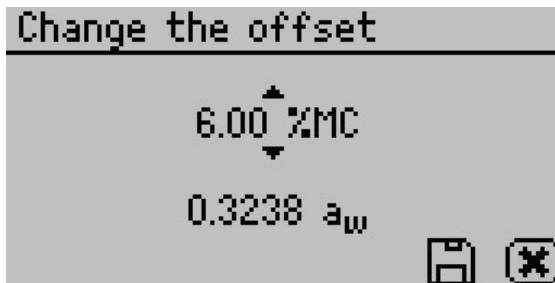

Figure 20 Adjust the moisture content value to match the reference method
17. Adjust the moisture content value using **UP** and **DOWN** until it matches the average moisture content value obtained from the reference method in step 5 (Figure 20).